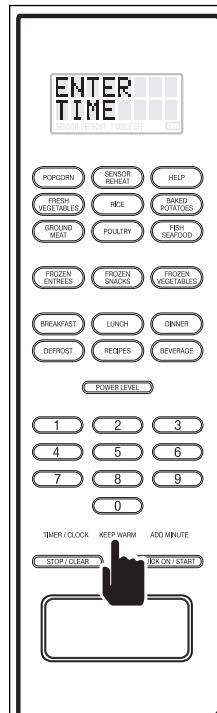

Figure 3-46.
5. Press the KEEP WARM key and "ENTER TIME" will appear on the display (See Figure 3-46).